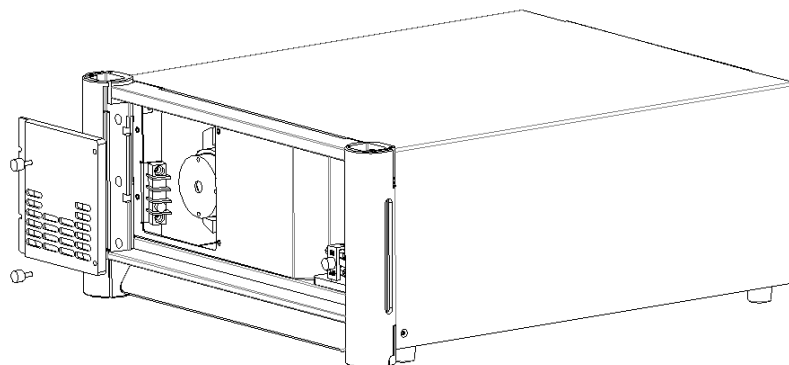

Figure 5-1 Remove the front lamp cover
- 1) Unscrew two fixing screws of the front panel, and remove the front panel lamp cover, as shown in Figure 5-1.